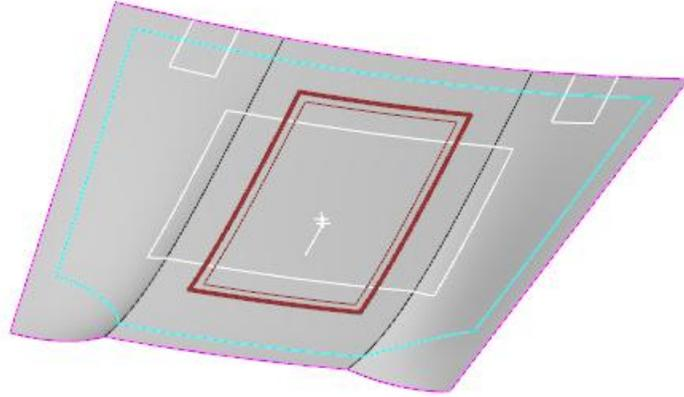

Figure 9–15
2. Select **CLYR001** from the list. The model displays as shown in Figure 9–15.